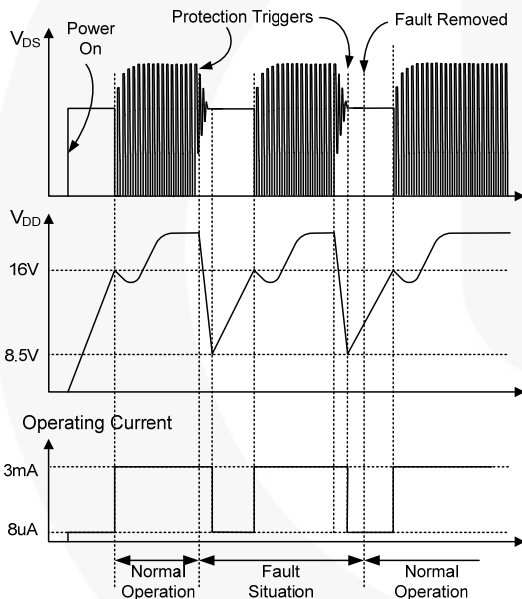

Figure 26. Auto Restart Operation
**Auto-Restart Mode Protection:** Once a fault condition is detected, switching is terminated and the MOSFET remains off. This causes  $V_{DD}$  to fall because no more power is delivered from auxiliary winding. When  $V_{DD}$  falls to  $V_{DD-OFF}$  (8.5V), the protection is reset and the operating current reduces to startup current, which causes  $V_{DD}$  to rise. FAN6862 resumes normal operation when  $V_{DD}$  reaches  $V_{DD-ON}$  (16V). In this manner, the auto-restart can alternately enable and disable the switching of the MOSFET until the fault condition is eliminated (see Figure 26).